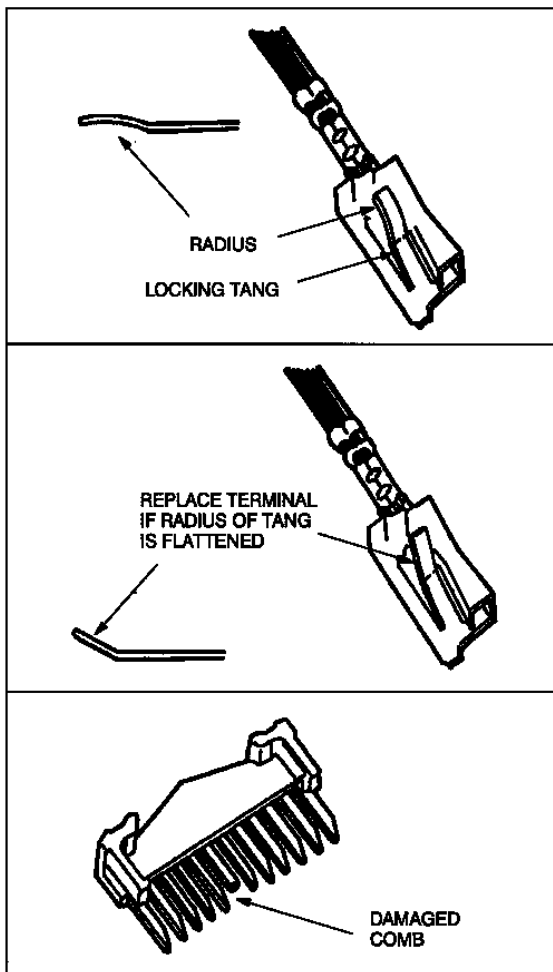

Figure 57 Inspect Terminal and Connector For Damage
5. Visually inspect the terminal and connector for damage, and replace if necessary (Figure 57). Replace the terminal if the radius of tang is flattened or terminal is otherwise damaged.
After repair is complete, insert Comb/Terminal Position Assurances, or lock secondary lock after repair is made. Do not re-use a damaged comb (Figure 57).